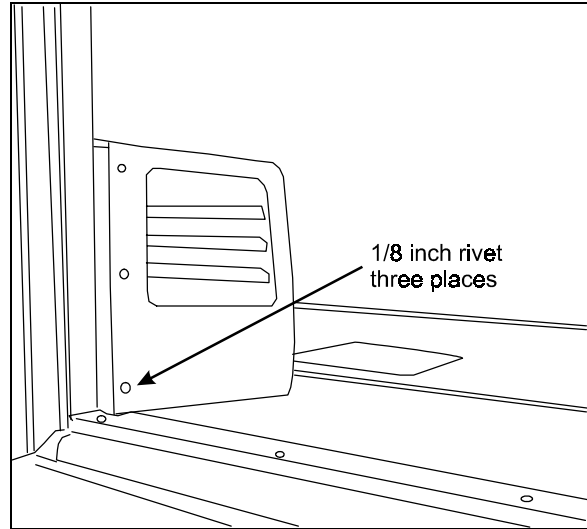

FIGURE 17
8. Install aluminum back support and plastic duct end (refer to figure 17).